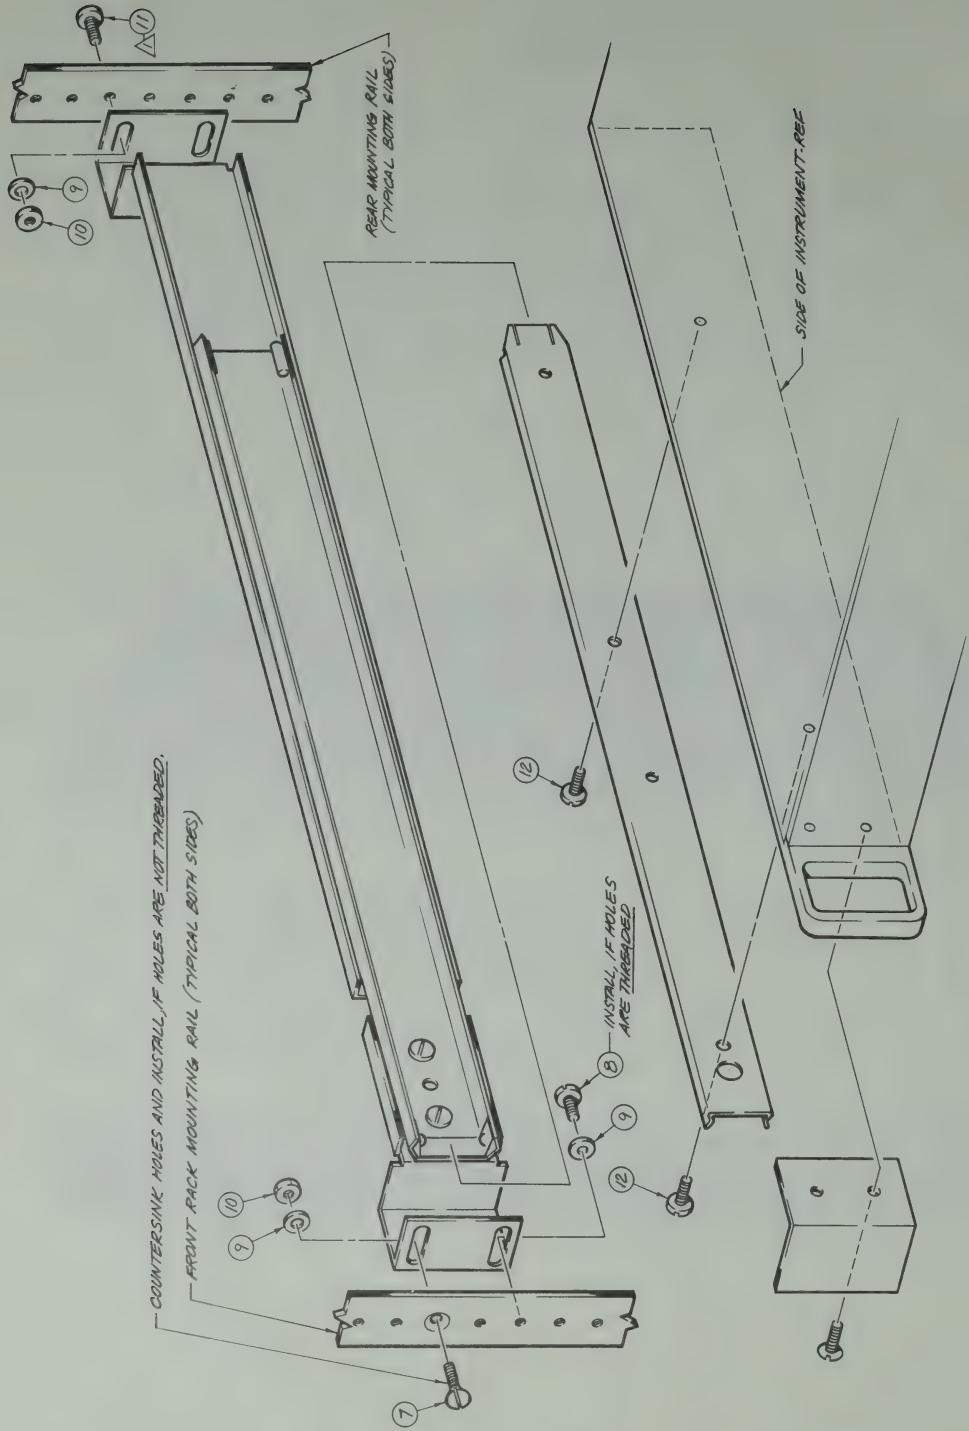

FIGURE 1 RACK MOUNTING OF COMPARATOR
2-4 If the Model 60-TF or 60-TFR Comparator is to be mounted in a 19" EIA system, all the hardware and slides are included for mounting. These units are mounted on chassis slides to allow access to the top of the unit to change the recorder paper supply as well as to allow viewing of the last two hours of recording. Figure 1 shows the typical installation procedure. The steps are outlined below:
5. The slide carrier (portion with the ball bearings in it) has been attached to the slide mounting brackets at the factory. The shorter of the two brackets is for mounting to the front rail of the rack system. If the front rail of the rack is not tapped for 10-32 screws, use an 82° countersink and countersink the front of the appropriate holes to a depth that will accept the flat head screws provided. Mount the front slide mounting bracket on the inside of the front vertical rail in the rack with the flat head screws and nuts as shown in Figure 1. If the rails of the system are tapped, use the 10-32 x 1/4 hex head cap screws from the rear to mount the bracket as shown in Figure 1.